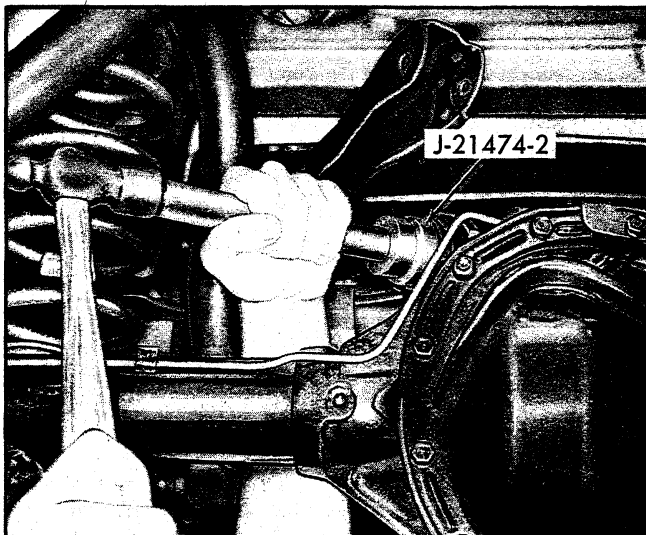

Fig. 42—Carrier Mounted Suspension Bushing Installation (Heavy-Duty) (Chevelle)
- e. Position bushing in carrier ear and drive bushing until it seats against carrier. Bushing is properly seated when shoulder on bushing contacts carrier. Refer to Figure 42 for installation.